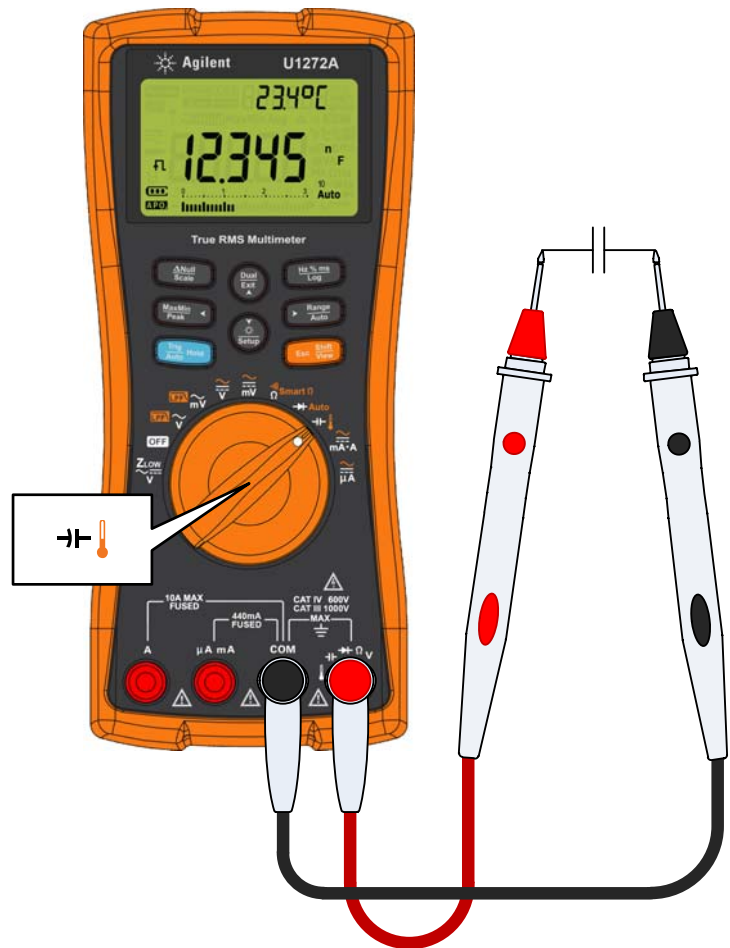

Figure 2-25 Measuring capacitance
- 1 To measure capacitance, position the rotary switch to \rightarrow and set up your multimeter as shown in Figure 2-25.